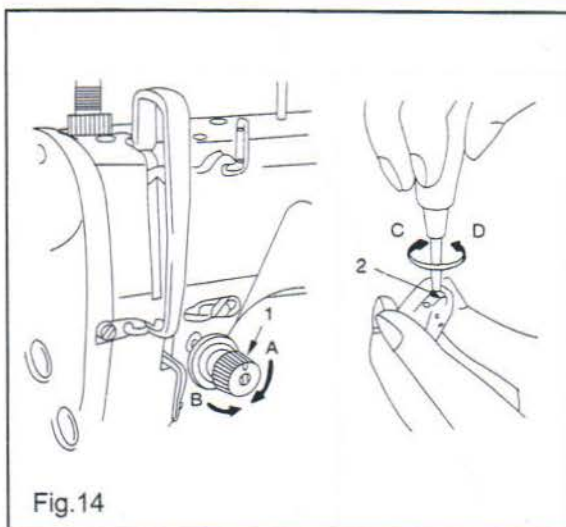

Fig.14
- 1) Turn stitch length dial ① in the direction of the arrow, and align the desired number to marker dot A on the machine arm.
- 3) When you want to decrease the stitch length, turn stitch length dial ① while pressing feed lever ② in the direction of the arrow.
8. THREAD TENSION (Fig.14)